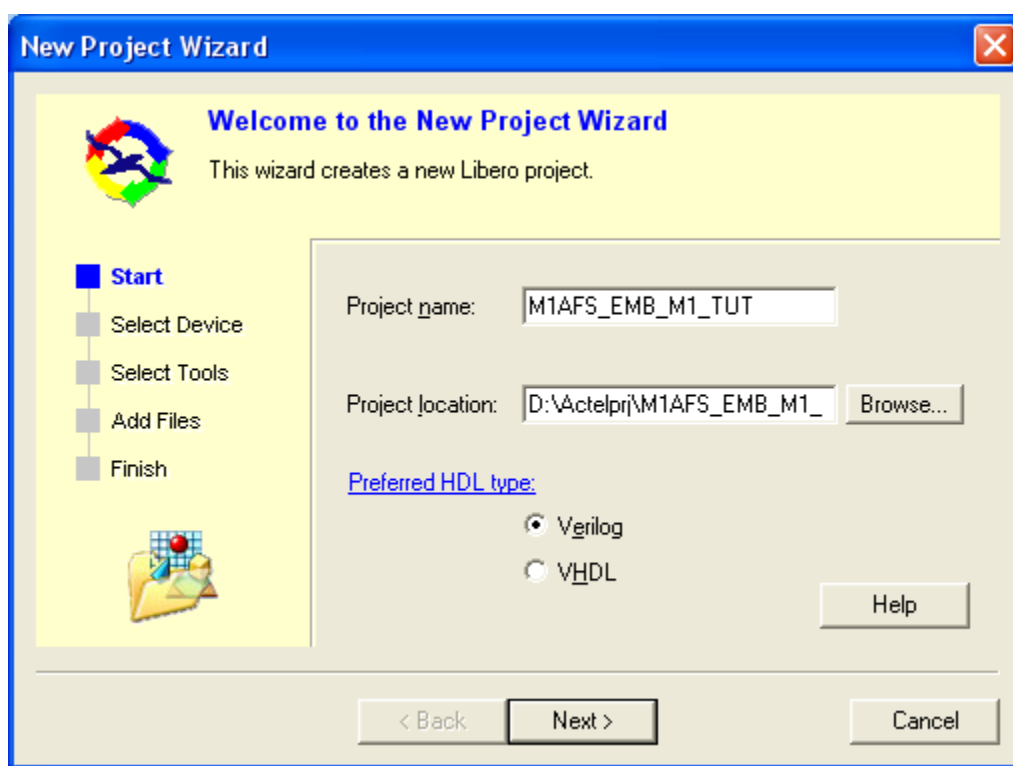

Figure 3-1 • New Project Wizard
4. Select your preferred HDL language. Your window should look similar to Figure 3-1.